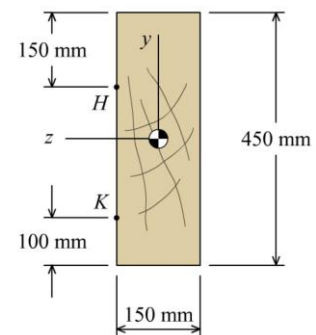

Figure Q3(b)
- (a). **Draw** the shear force and bending moment diagrams for the beam shown in **Figure Q3(a)**.